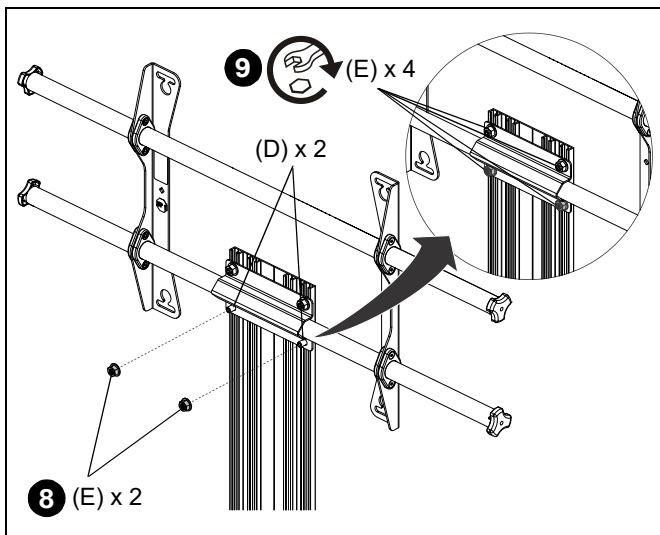

Figure 6
8. Tighten the two M8 x 20mm screws (D), then loosely install two M8 flange nuts (E) to the screws (D).
9. Tighten all four M8 flange nuts (E) securing the bar clamp to the M8 x 20mm screws (D) screws. (See Figure 6)